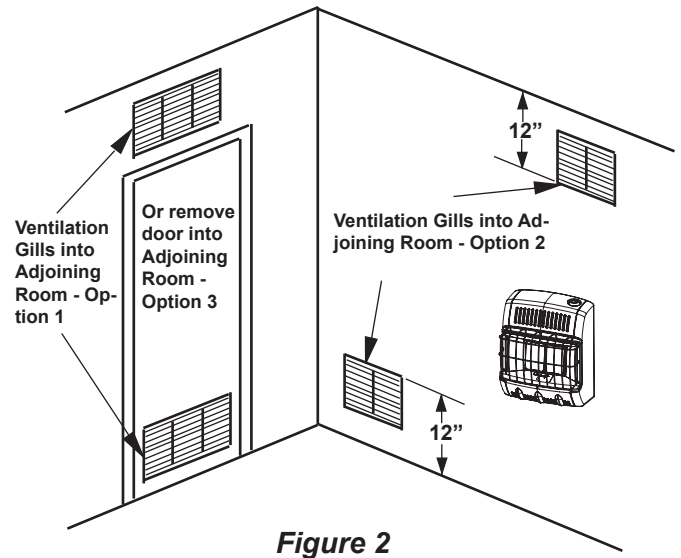

Figure 2
- A. Rework worksheet, and the space of an adjoining room. If the extra space provides an unconfined space, remove door to adjoining room or add ventilation grills between the rooms. See Ventilation Air From Inside Building (Fig. 2)
This fresh air would come from an adjoining unconfined space. When ventilation to an adjoining unconfined space, you must provide two permanent openings: one within 12" of the ceiling and one within 12" of the floor on the wall connecting the two spaces (see options 1 & 2 of figure 2). You can also remove door into adjoining room (see option 3, fig 2). Follow the National Fuel Gas Code NFPA 54/ ANSI Z223.1, Section 5.3, Air for Combustion and Ventilation for required size of ventilation grills or ducts.